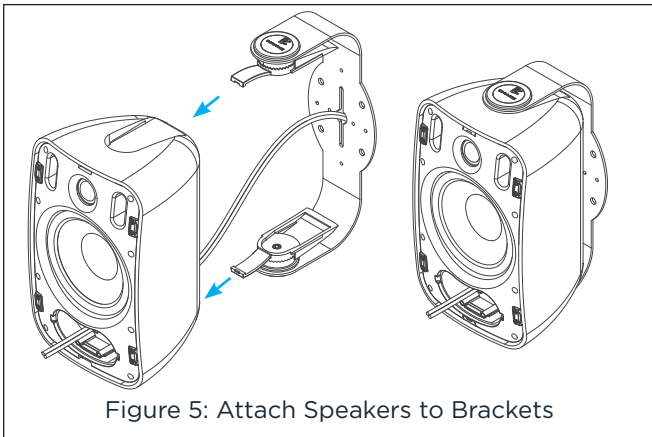

Figure 5: Attach Speakers to Brackets
- Slide the speaker onto the bracket until the locks snap into place (see Figure 5). Pull enough wire through the front of the speaker to allow connection to the terminals.